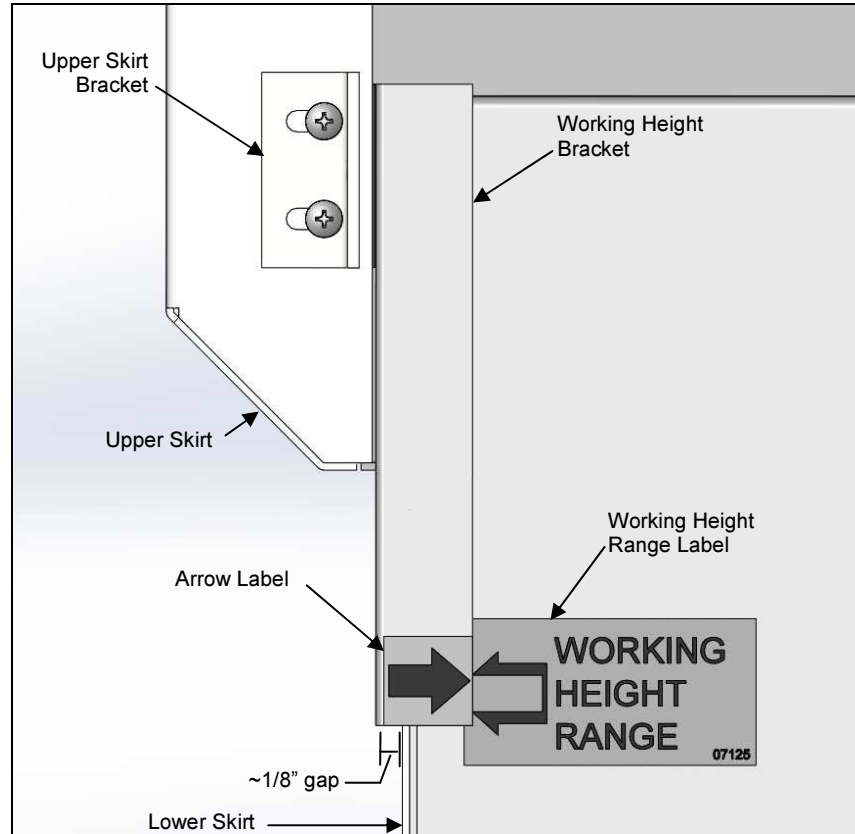

Figure 9
3. Remove the backing from the arrow label and, ensuring that the arrowhead will point towards the center of the table once the bracket is installed, place arrow label on bracket as shown in Figure 9.
8. Place the working height range label on the lower front panel. The tip of the upper arrowhead of the working height label should be approximately 1/16" above the arrow tip of the arrow label on the bracket as shown in Figure 9.